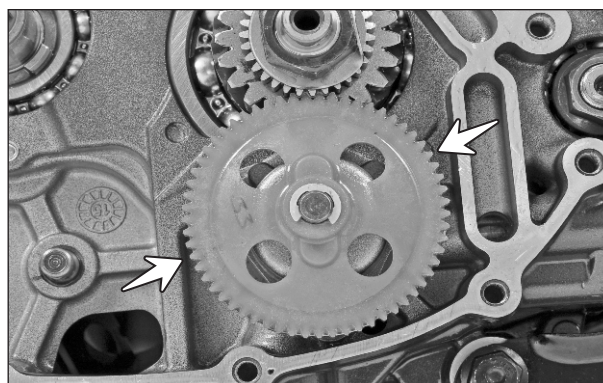

Fig. 4.18
- The pump assembly oil is mounted on the right side crankcase, just below the gear primary drive. (Fig. 4.18)